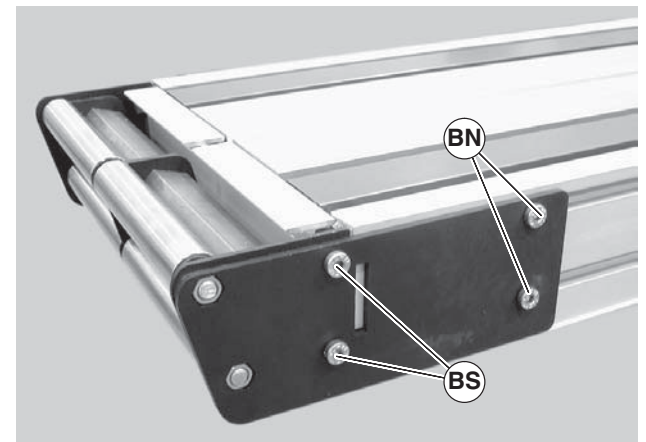

Figure 54
2. On one side of conveyor, loosen the two (2) back fastening screws (Figure 54, item BN), and remove the two (2) front fastening screws (BS).